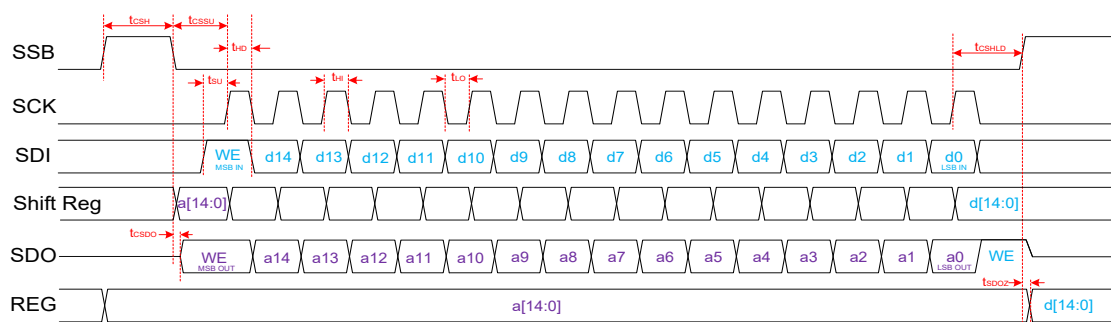
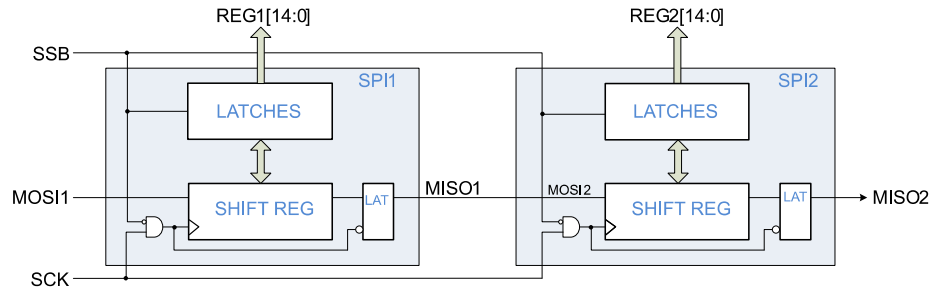
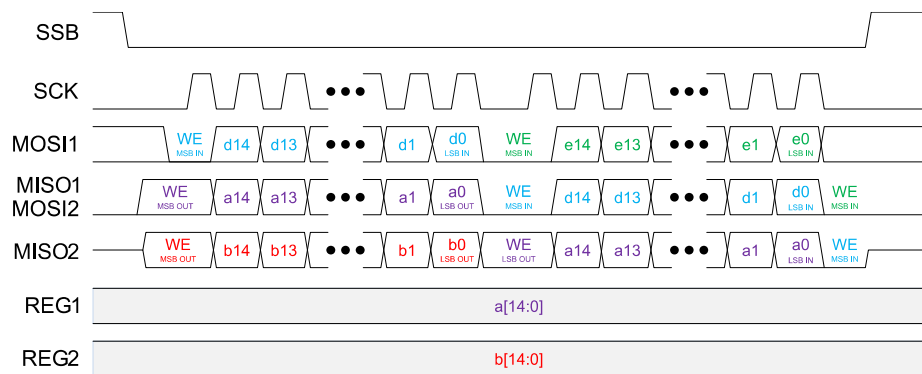
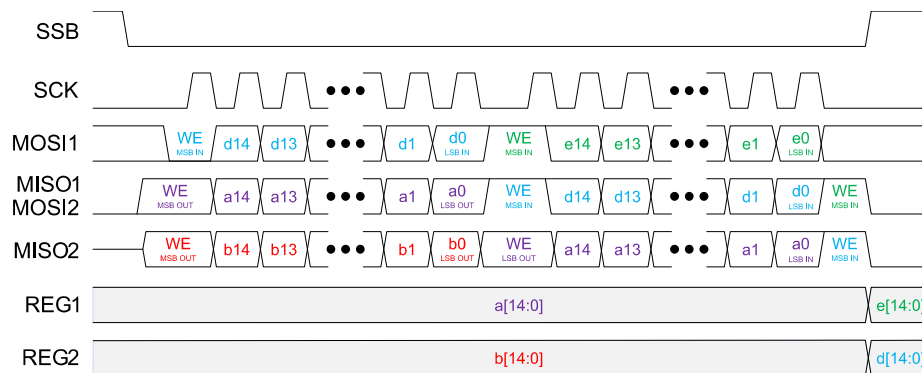

Figure 15. SPI Timing Diagram
Figure 18. SPI with Two ICs Daisy-chained
Figure 19. SPI Read Only (Two ICs Daisy-chained)
Figure 20. SPI Read & Write (Two ICs Daisy-chained)
MODE = 0, activates the 16-Bit Serial Peripheral Interface (SPI) module for operation. Multiple devices can be daisy-chained to drive multiple ICs using one SPI bus. In Daisy Chain Operation see Figure 18, Figure 19, and Figure 20.
SPI timing diagrams are provided in Figure 15 through Figure 20. In SPI mode, data transmission starts when SSB goes Low, causing the Target to output the Most Significant Bit (MSB) of data to the SDO (MISO) pin. Data transfer from Host to Target takes place during the rising edge of the clock (SCK), which is idle when SSB is High. This mode of operation requires data for Host and Target to be present on SDI (MOSI) before the rising edge of the clock (defining SDI to SCK setup time). Data is pushed out of the SDO (MISO) pin during the falling edge of the clock. After the first 16-bit transaction, Host writes the latest data (DN) to
Daisy chaining the ICs is permitted and involves connecting the MISO of one chip to the MOSI of the next chip in the chain, as shown in Figure 18. SPI timing diagrams with daisy-chained devices are provided in Figure 19 and Figure 20.